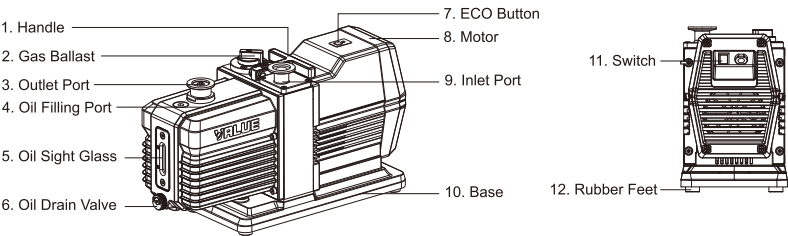
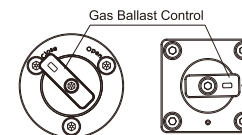

Fig. 1
Fig. 6
Remove Oil Filling Port (No. 4 in Fig. 1) and fill oil into the pump. The first oil filling shall reach 80 - 90% below MAX position. Remove Oil Drain Valve (No. 6 in Fig. 1) to discharge the excess oil above MAX position.
Close the Gas Ballast (No. 2 in Fig. 1) to pump non-condensable gases (Gas ballast position refer to Fig. 6). The ultimate pressure will rise (loss of vacuum) when the gas ballast is open.
- 2.1). If the vacuum system contains a small amount of condensable gas, open gas ballast (Move gas ballast to open position refer to Fig. 6) to displace the vapor.